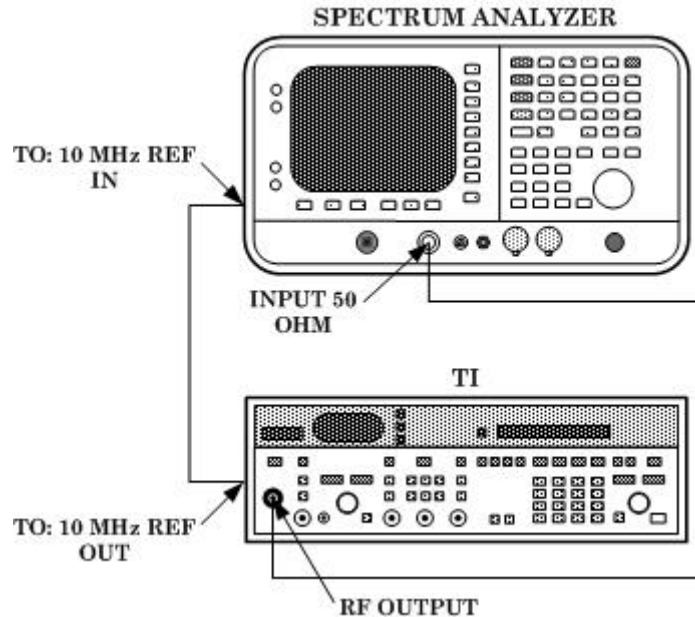

Figure 4. Harmonic, sub harmonic, multiples and non-harmonic spurious hookup.
(1) Connect equipment as shown in figure 4 below.